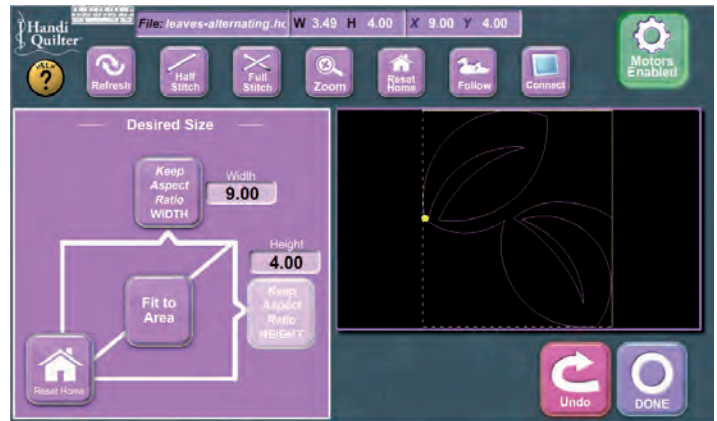

Figure 13
2. Press the “Keep Aspect Ratio” button and the HQ Pro-Stitcher will calculate the width required to maintain the current aspect ratio based upon the new height entered (Figure 13).